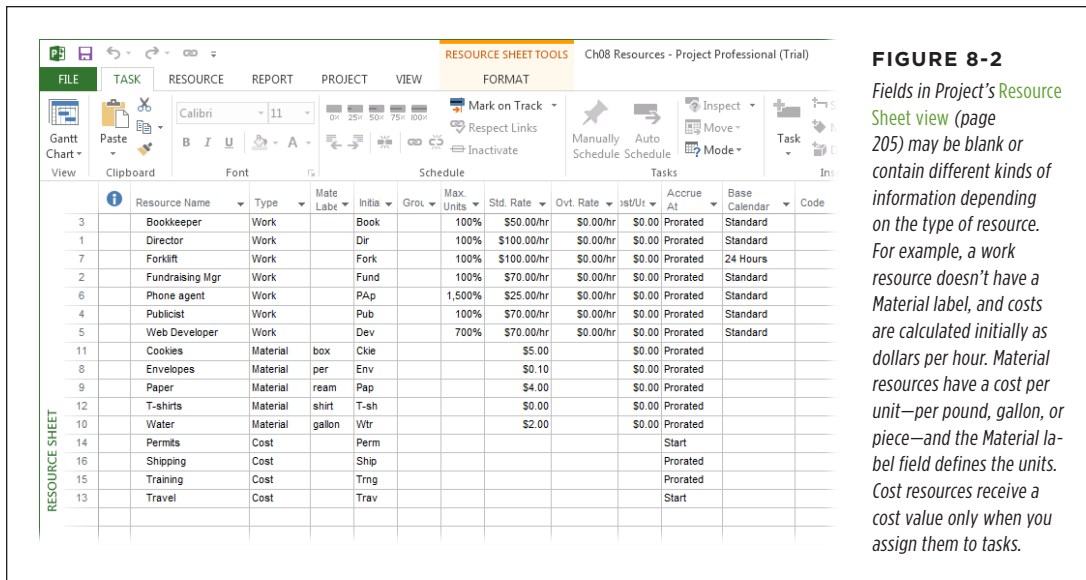

FIGURE 8-2
- **Work.** Time is what distinguishes work resources from other resource types in Project. For example, people and equipment are work resources, because you track their participation by the amount of time they spend on the project. Whether you're assigning people to direct traffic or renting equipment for an event, your project's tasks depend on when those work resources are available, how much time they have, and how much they cost for a period of time, as shown in Figure 8-2.
The advantage of this resource type is that you can track different types of costs separately. For instance, you might set up cost resources for travel, building permits, rental expenses, and shipping, as illustrated in Figure 8-2. You can then assign those cost resources to each task they apply to (page 248), and then total what you spend on different types of costs for the entire project (page 249). A kickoff meeting might have, say, \$20,000 in travel costs and \$5,000 in communications costs for the people who attend in person and via videoconference. And the change control board might have \$1,000 in travel costs and \$2,000 for videoconferencing. When you see the \$21,000 for travel vs. \$7,000 for videoconferencing, you might consider changing your approach to meetings.